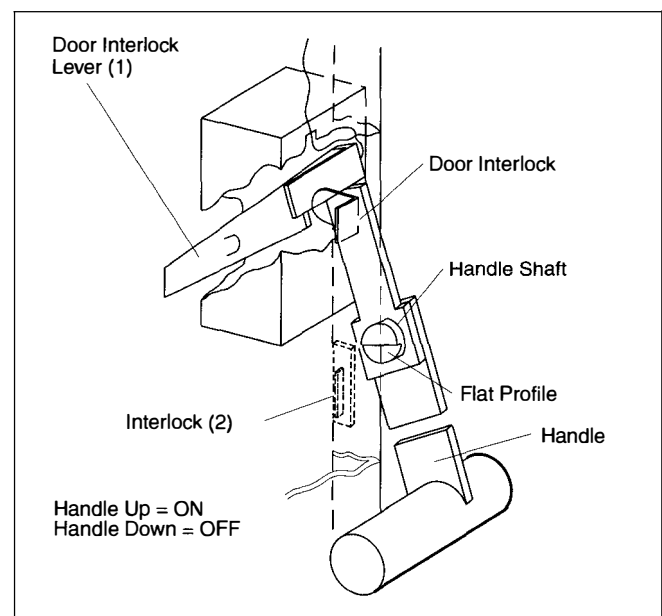

Figure 2. Door Interlock and Door-Handle Interlock
The racking handle is interlocked with the door such that the handle cannot be moved to the ON position with the door open. Refer to **Figure 2**.
The door-handle interlock (item 2 in **Figure 2**) prohibits closing or opening the medium voltage compartment door except when the racking handle is in the OFF position. The flat profile on the end of the handle shaft will not allow the door-handle interlock to pass in or out unless the handle is in the OFF position. Refer to **Figure 2**.